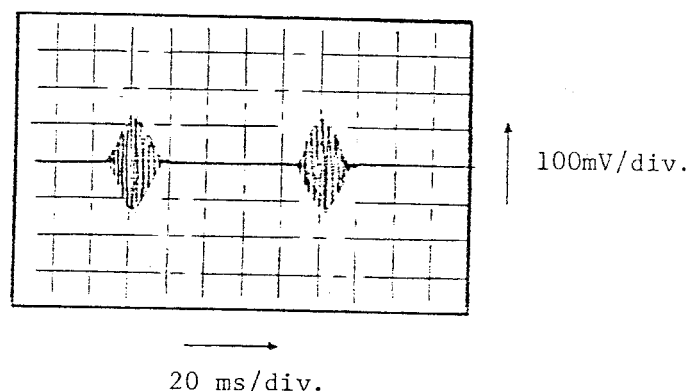

Fig. 4.28 Output Waveshape from Bent or Distorted Medium
(4) Cautions
- (b) Use a work medium with minimum bend or distortion, such that the waveshape shown in Fig. 4.28 does not appear while the adjust screw is turned counterclockwise.